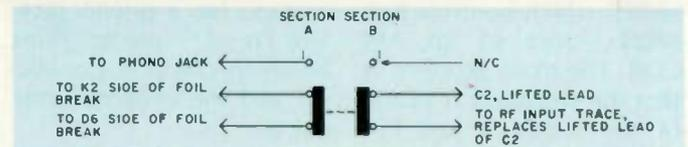

Fig. 6. The wiring of DPDT switch, placed in the T/R position.
g. Wiring the switch. See Fig. 6. The coax center lead, which is soldered to C2's lifted lead, is soldered to the wiper of section B. The other center lead is soldered to pole 2 of section B. The shielding is grounded at the ground point for the lamp behind the swr meter. The wire which is soldered to the K2 side of the foil break is soldered to the wiper of section A of the switch. The wire which is connected to the D6 side of the break is soldered to pole 2 of section A. When the switch is in this position, the COR circuit operates normally and PTT is disabled. Connect a piece of #22 stranded wire to pole 1 of section A, and run it along the cabinet to the center connection of the phono jack. Leave pole 1 of section B open. When the switch is in this position, the COR is disabled and the linear will operate PTT from an external voltage